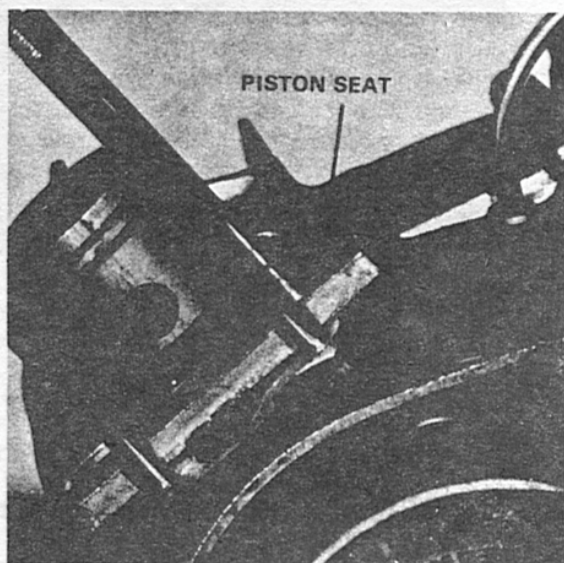

Fig. 4
20. As soon as the cylinder is removed, insert the piston seat (special tool) under the piston. This special tool protects the piston during disassembly and it also holds the crankshaft stationary for further disassembly operation. (Figure 4)